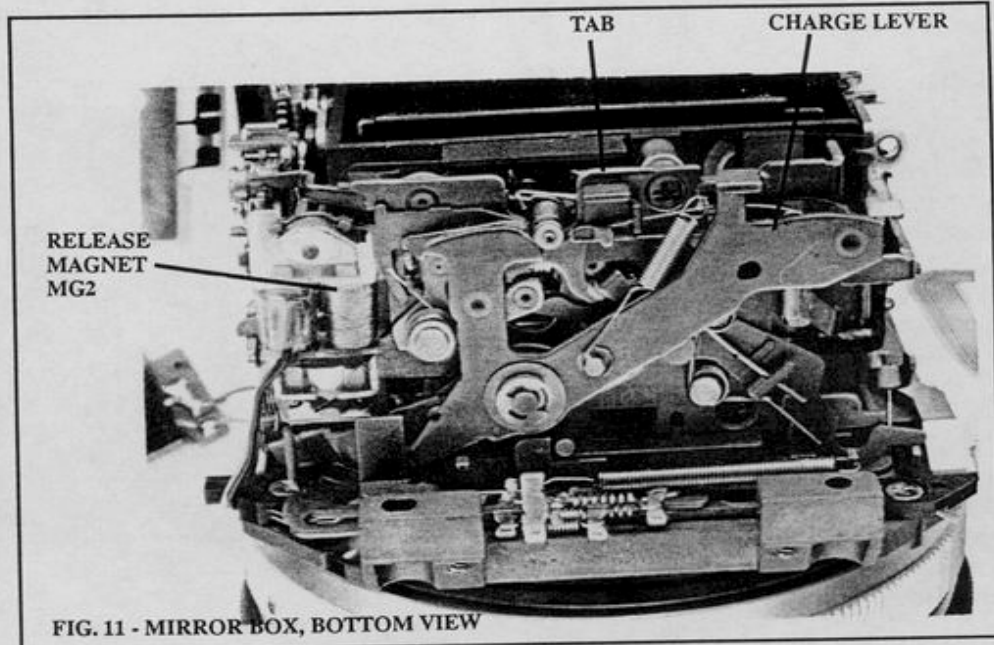

FIG. 11 - MIRROR BOX, BOTTOM VIEW
2. **Release magnet Mg2.** Hybrid magnet on mirror box, Fig. 11. To release the mirror, IC4 switches the